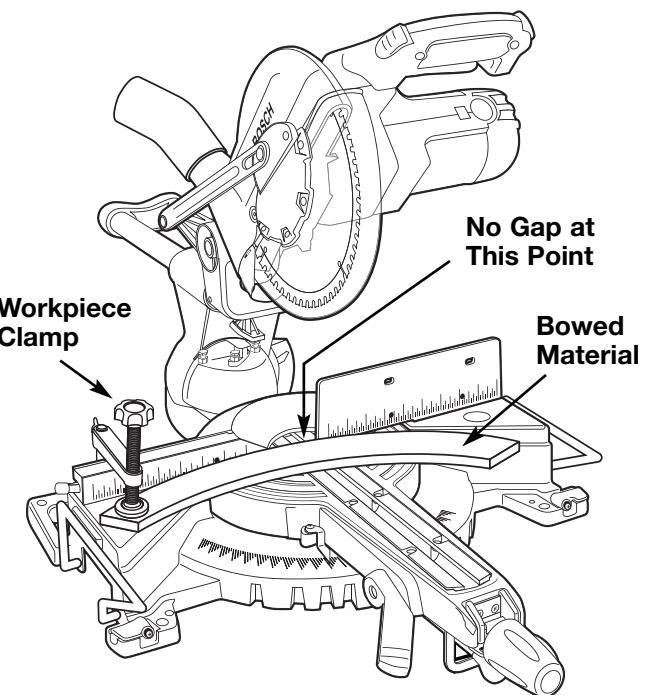

Figure 35. Bowed Material
**! WARNING** If workpiece is bowed or warped, clamp it with the outside bowed face toward the fence. Always make certain that there is no gap between the workpiece, fence and table along the line of cut. Bent or warped workpieces can twist or rock and may cause binding on the spinning saw blade while cutting (Figure 35).